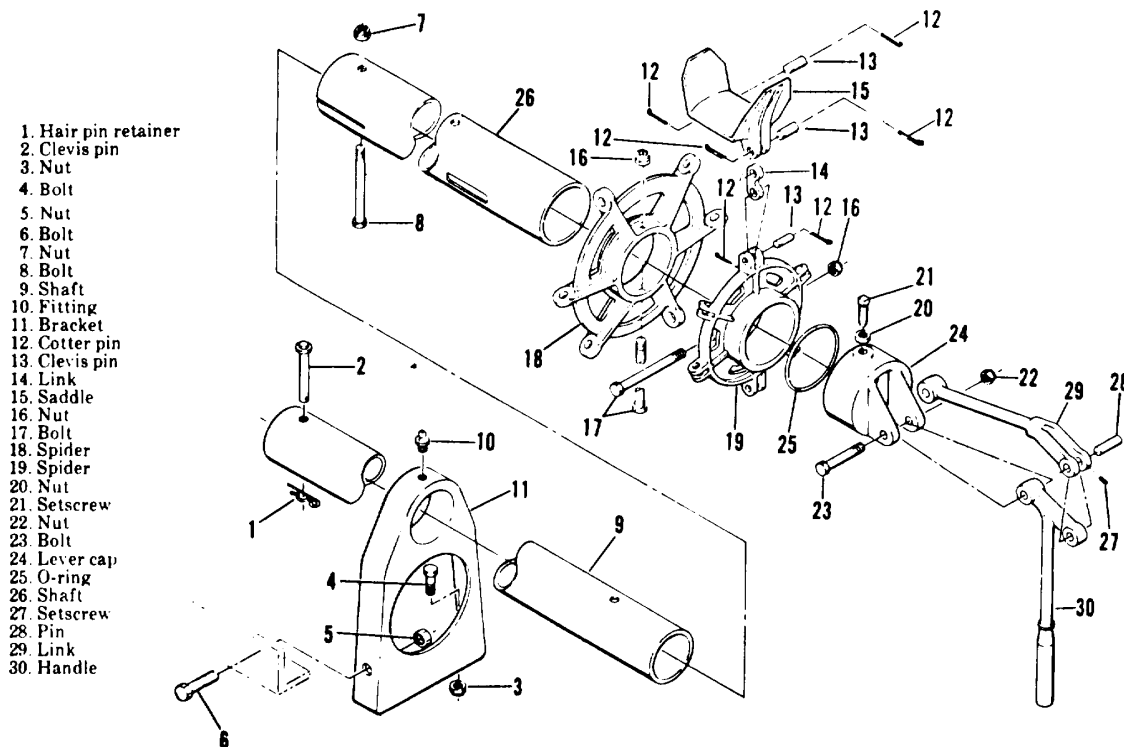

Figure 4-16. Collapsible reel. exploded view.
a. *Removal and Disassembly.* Remove and disassemble the collapsible wire reel by following the sequence of index number (1 through 30) assigned to figure 4-16.
(1) Inspect all parts for visible signs of wear or damage.
(2) Repair by using replacement parts in lieu of worn or damaged parts.